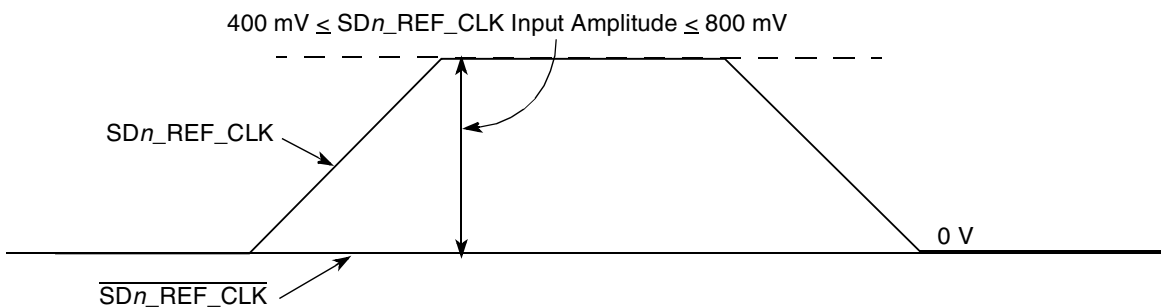

Figure 33. Single-Ended Reference Clock Input DC Requirements
- The SDn_REF_CLK input average voltage must be between 200 and 400 mV. **Figure 33** shows the SerDes reference clock input requirement for single-ended signaling mode.